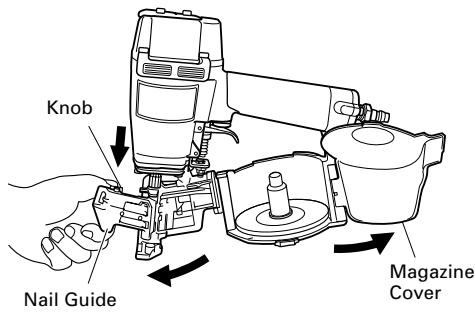

Fig. 1
(1) Grip the nail guide and knob with your fingers. Press the knob down and swing the nail guide open. Then open the magazine cover. (Fig. 1)